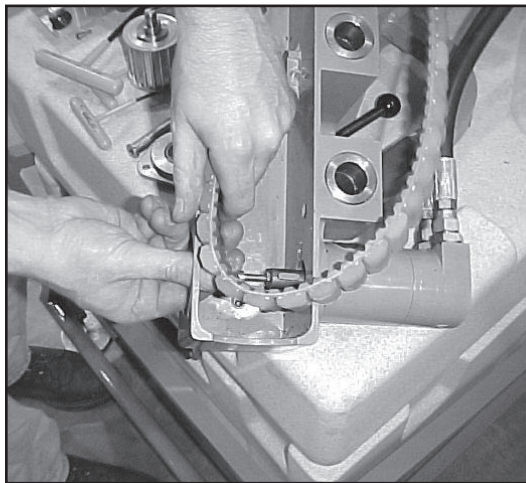

Figure 12
12. Slide track past motor drive shaft and out (Figure 12)